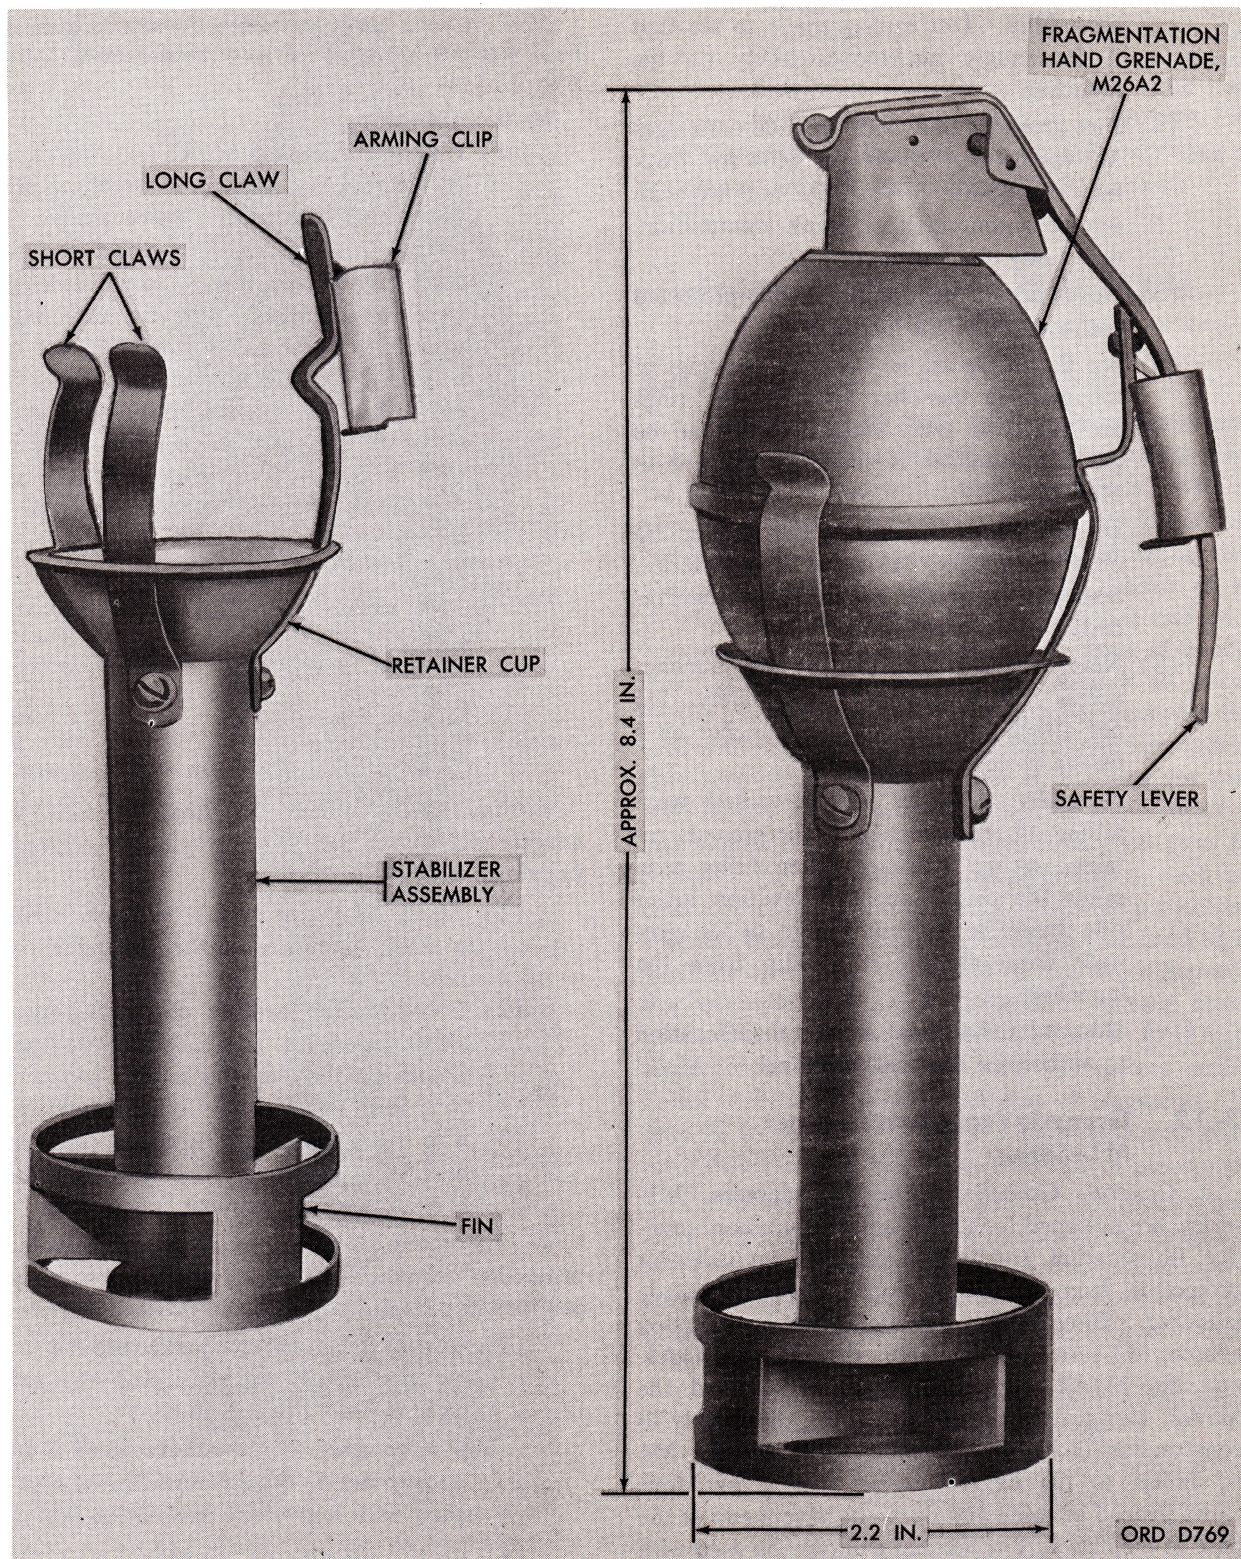

Figure 3-7. Adapter, grenade projection, M1A2 with fragmentation hand grenade.
a. General. Grenade projection adapters, M1-series, are designed for adapting fragmentation, practice, illuminating, and WP smoke hand grenades for projection from a rifle equipped with a grenade launcher. Three different models of the projection adapter M1-series are available: the M1, the M1A1, and the M1A2 (fig. 3-7). The M1A1 and the M1A2, identical in function and use, differ only in construction of the fin assembly. The adapter M1 is similar to the M1A1 except that it has four claws instead of three and does not have a cup at the base of the claws. The adapter can only be used with fragmentation hand grenade Mk2 and practice hand grenade M21.